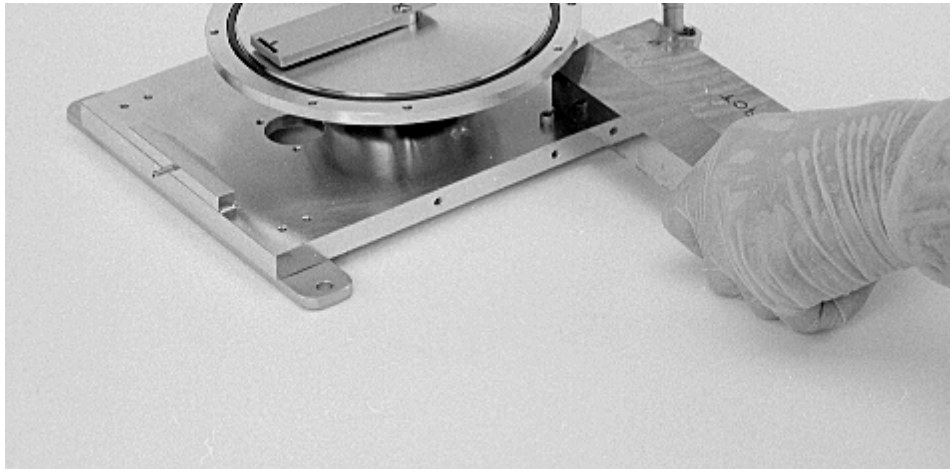

Figure 5-19. Removing the permanent magnet from the source base plate
Step 19: Carefully remove the permanent magnet from the base plate. To do so, push it to one side until it is well clear of the crucible mounting flange. Then swing it up by raising the end that now extends beyond the side of the base plate (see Figure 5-19).